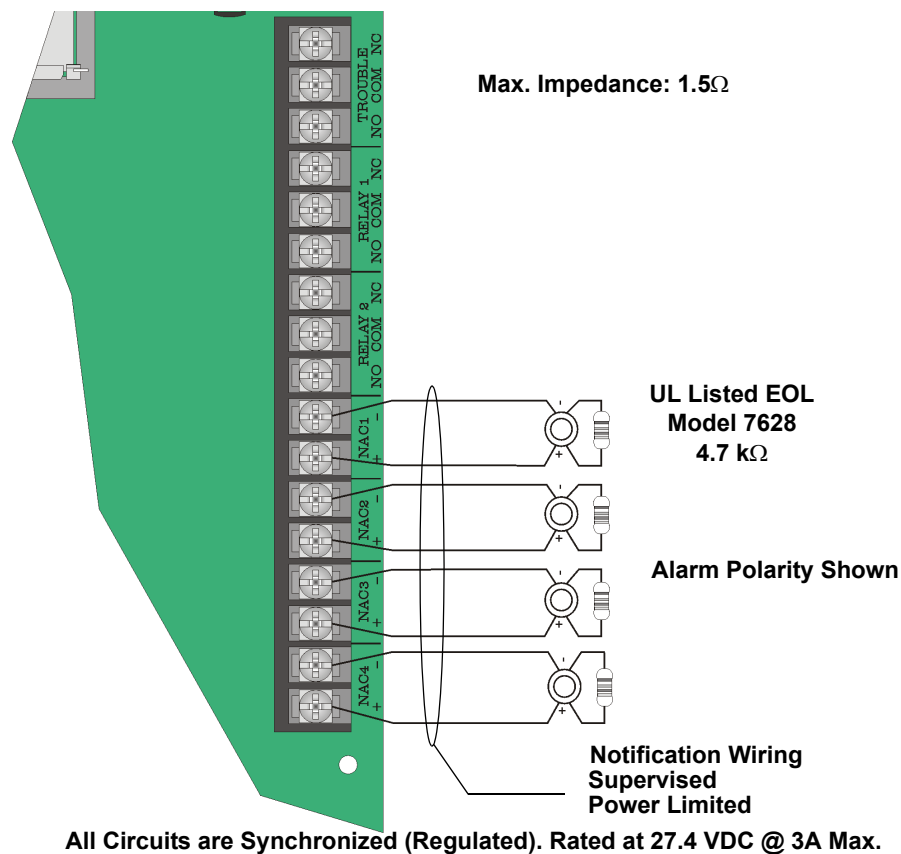

Figure 4-27 Class B Notification Appliance Circuit Wiring
1. Wire Class B Notification appliances as shown in Figure 4-27.